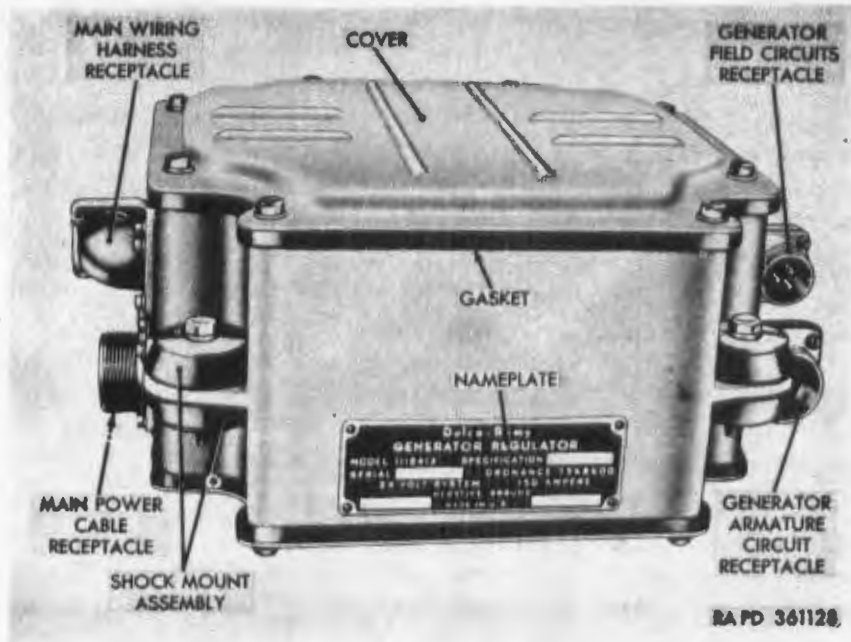

Figure 144. Delco-Remy generator regulator box.
e. Generator Regulator Box (fig. 144). The generator regulator box is mounted on mounting brackets between the two fixed fire extinguishers forward of the engine compartment bulkhead door. The regulator box contains the electrical components to regulate the output of the engine generator (*d* above).
(figs. 144 and 148)